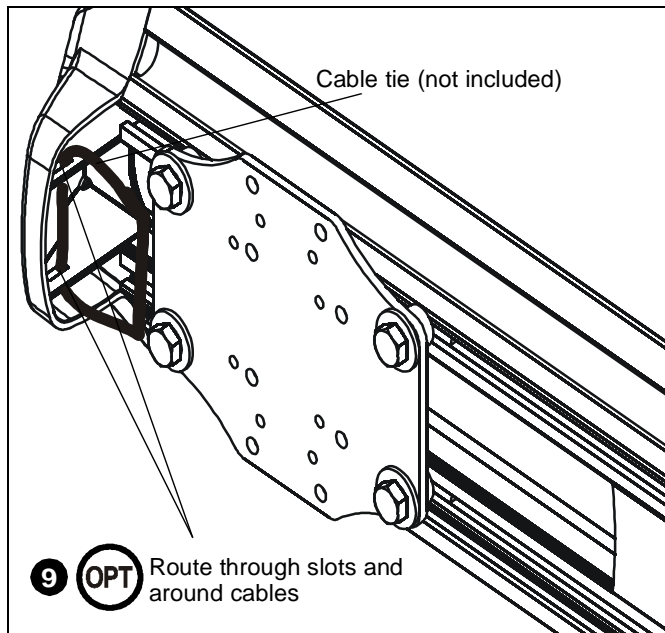

Figure 60
- (Optional)** Cables can be tied to inside of mount's front cover using cable ties (not included). Route cables near front cover and wrap cable tie through slots on front cover and around cables. (See Figure 60)